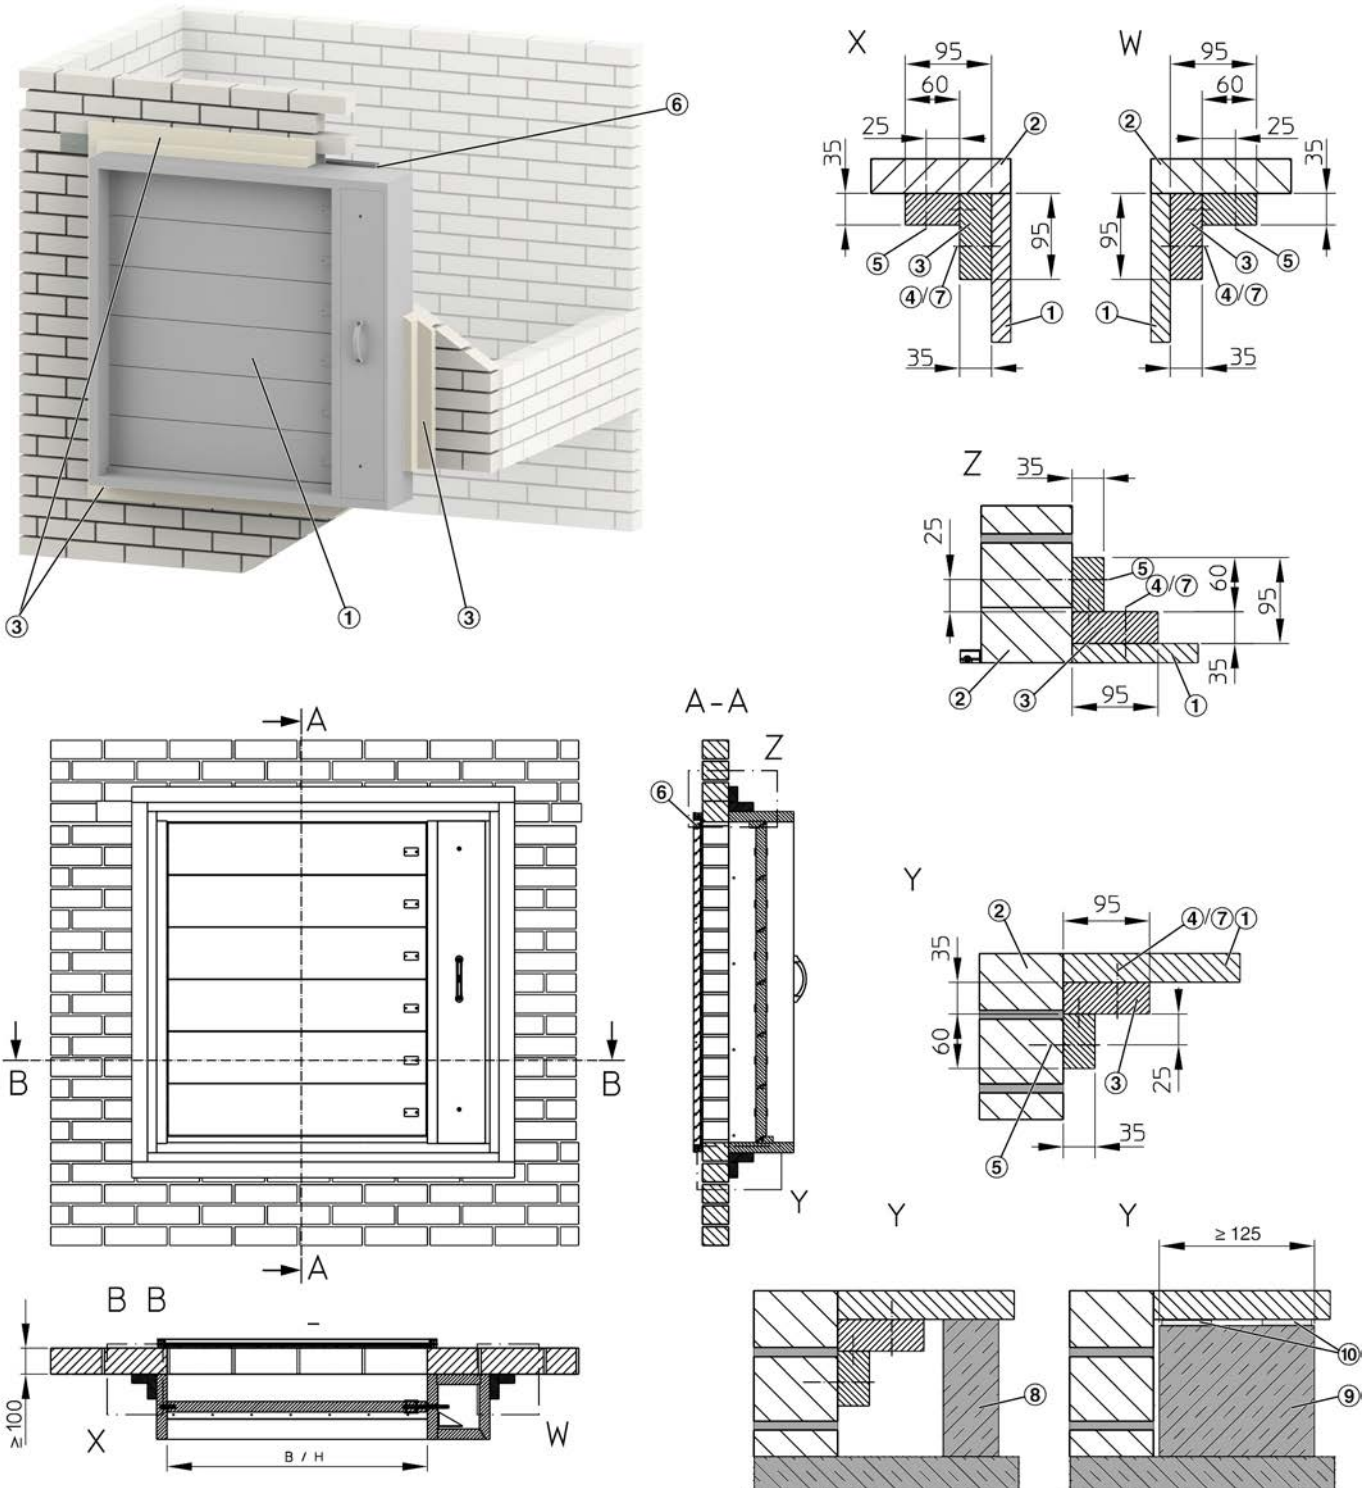

Fig. 23: Dry mortarless installation on solid external wall or solid shaft wall
2. ▶ Use two strips of fire-rated board to make an angle section ( Fig. 23 /3), then fix the angle section to the underside of the smoke control damper.
2. ▶ Stick the high-temperature sealing tape ( Fig. 23 /10) and the intumescent seal ( Fig. 23 /9) to the damper casing, observing the corresponding installation position of the damper..
3. ▶ Use two strips of fire-rated board to make an angle section ( Fig. 23 /3), then fix the angle section to the underside of the smoke control damper.